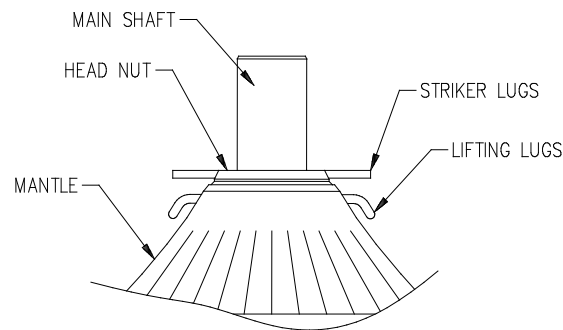

Fig. 6.3.8
- Weld lugs for striking to the head nut. Weld lifting hooks to the upper part of the mantle. (Fig 6.3.8)